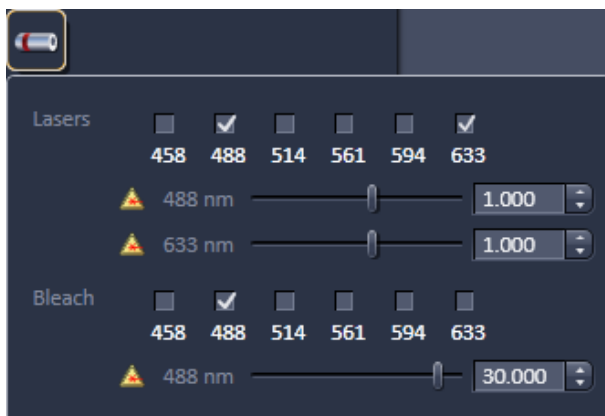

Fig. 241 Visible Light Laser panel
- Press the **Visible Light** or **Invisible Light** tab to display the laser control panel used for measurements and pinhole adjustments (**Lasers** area) or bleaching (**Bleach** area) (Fig. 241). Press again to close the panel.